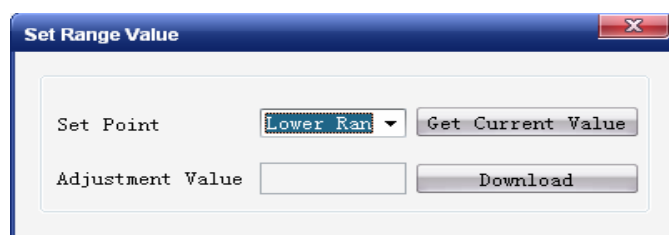

Figure 5-5 Calibration of rangelower limit
- ① Add standard pressure of the range lower limit to transmitter, when the pressure is stable, select the calibration point "lower range", as Figure 5-5 shows. And then click the button "get current value", the calibration data is displayed in "adjustment value". Complete the calibration by clicking the button "download". Now the practical pressure value is the pressure value of range lower limit, and the current output is 4mA.